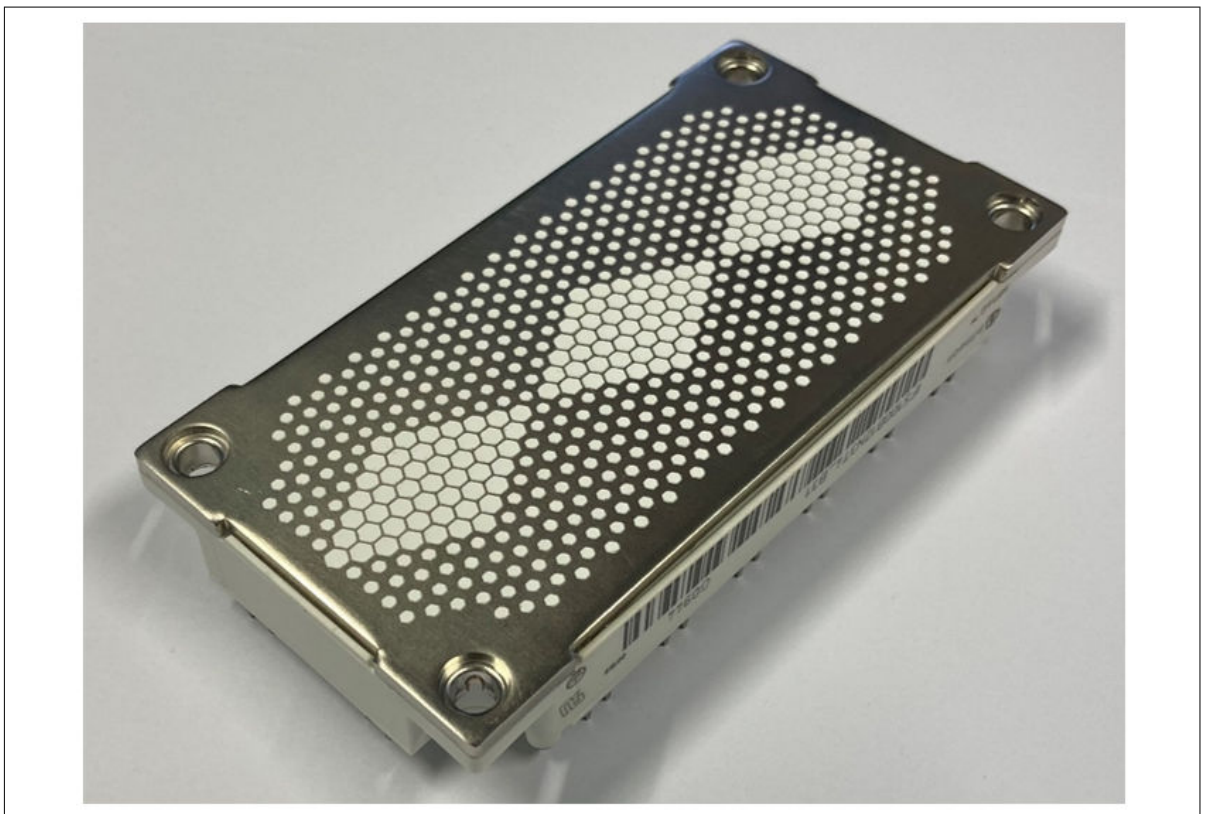

Figure 7 Print image after paste has been applied
5. The resulting print image of the thermal compound on the module baseplate is shown in Figure 7.